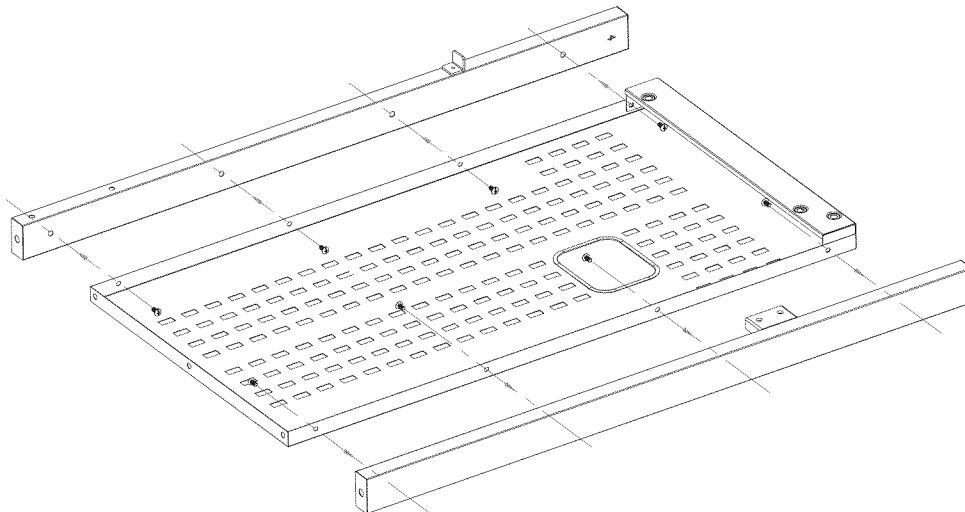

Fig. 3
1. To attach right panel, align right leg holes with holes on right panel (marked “R”) as shown in **Fig. 3**.
2. Attach right-front leg (marked “Right Front”) and right-back leg (marked “Right Back”) to right panel with eight (8) M5 x 10 screws as shown in **Fig. 3**.